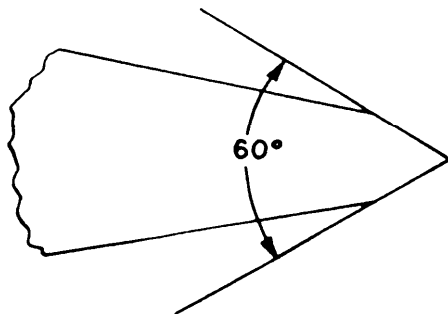

Figure 5-28.—Proper angle for a general use cold chisel.
- **Metal-cutting chisels:** These chisels are designed to cut cold metal, so we often use the general term *cold chisel* to describe them. The 60° angle shown in figure 5-28, is for a general-use cold chisel. Increase this angle to cut harder materials and decrease it for softer materials.